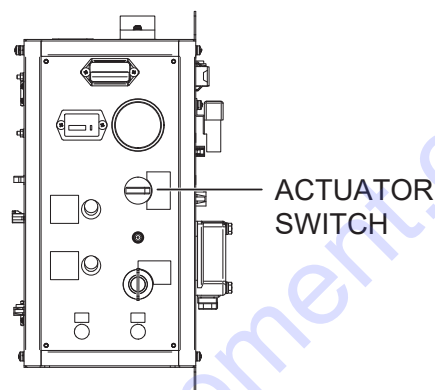

Figure 11. Actuator Switch
3. Turn the actuator switch on the control panel (Figure 11) counterclockwise to tilt the lamp stand up.